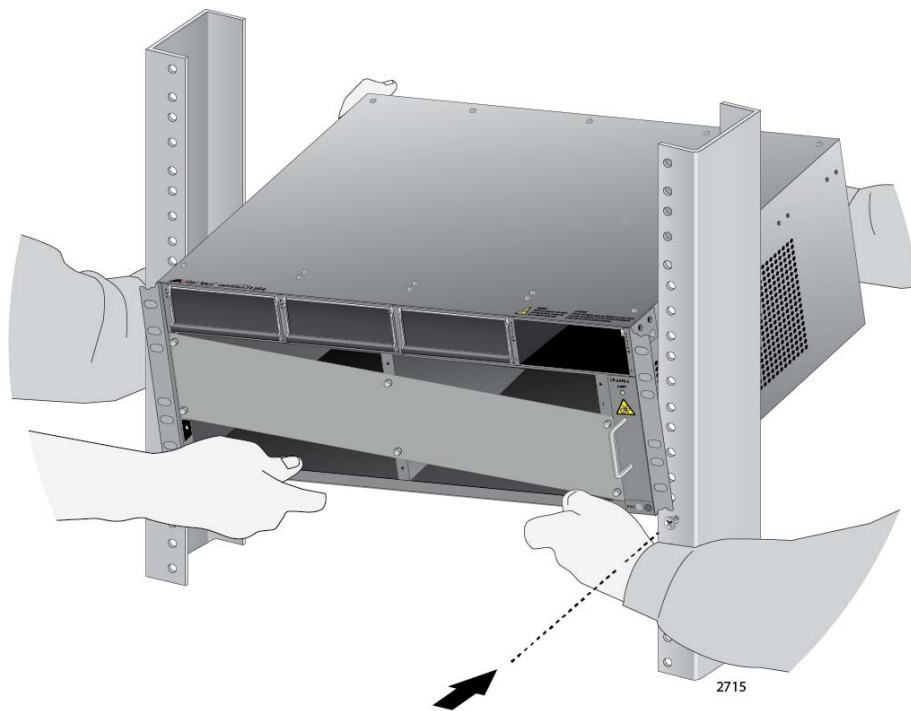

Figure 41. Lifting the AT-SBx3106 Chassis into the Equipment Rack
2. Do not mount any other equipment within 152.4 mm (6”) above this space during installation. This additional vertical space is temporary and allows you enough room to lift and tilt the chassis into its position in the equipment rack without hitting other equipment, as shown in Figure 41 on page 100. You may use this additional space for other network equipment after the chassis is installed.
2. Lift the AT-SBx3106 Chassis into the equipment rack and set the bottom of the equipment rack brackets firmly on the two equipment rack screws installed in “Preparing the Equipment Rack” on page 93. Refer to Figure 41 on page 100.